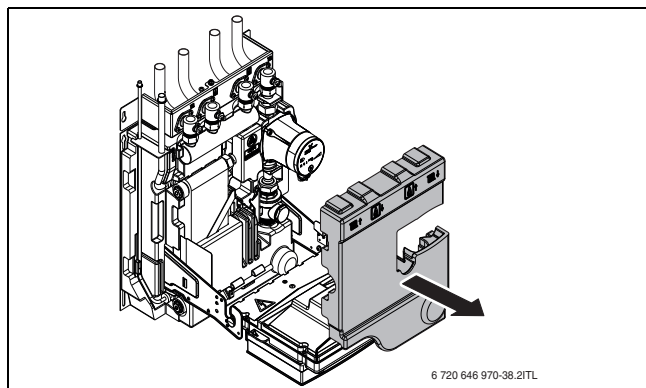

Fig. 55 Removing the top insulation panel
- ▶ Remove the front upper insulation (Fig. 55, Page 50) being careful not to misplace the small piece of insulation at the side of the pump.